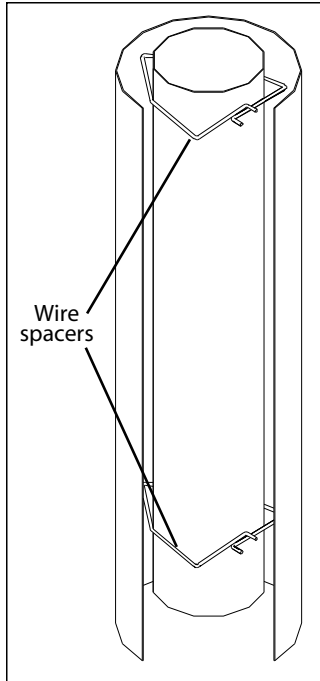

Figure 25: Wire Spacers.
8. Slide the Ø6⅝" (16.25 cm) flex intake liner over the flex vent. Install four (4) wire spacers around the flex pipe. Ensure the wire spacers are positioned at either end of the pipes, and at each end of any elbows in the liners (refer to Figure 25 and 26).